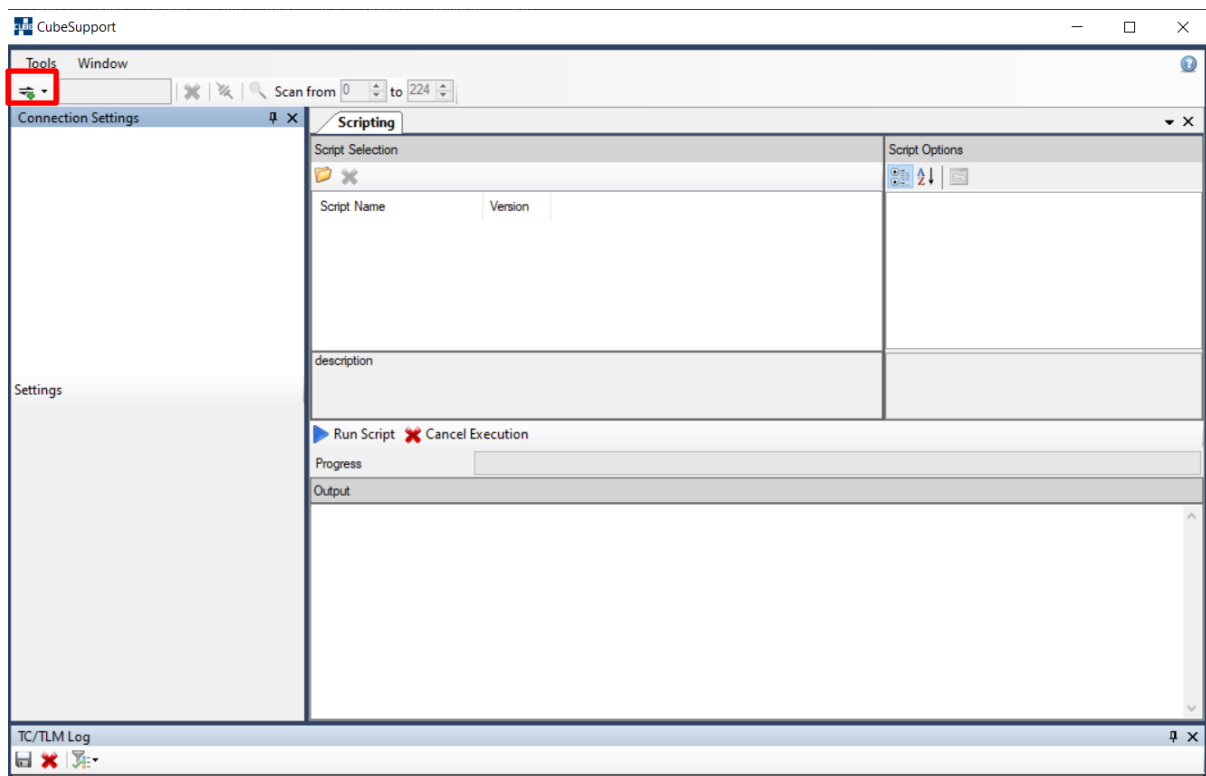
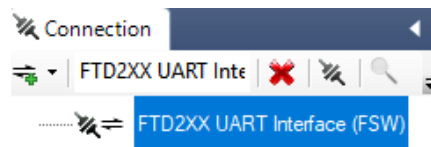

Figure 13 – Add a Connection to CubeSupport.
Figure 14 – New Connection in List
Launch the *cubesupport.exe* file. The CubeSupport application will open a window as shown in Figure 13.
1. Click on the add connection icon (  ) as indicated by the red rectangle in Figure 13. This will detect the UART to Serial cable and show the connection in the list, as shown in Figure 14. If the UART cable is not detected, ensure that the steps in section 2.2 were performed.
3. Connect to CubeStar by clicking on the connect button (  ) shown in Figure 14. The CubeStar user interface should show up as described in the following section. If the interface does not appear, ensure that the UART cable is correctly connected to the CubeSupport PCB and that the *Vbat On* switch is in the on position, as explained in section 2.1.